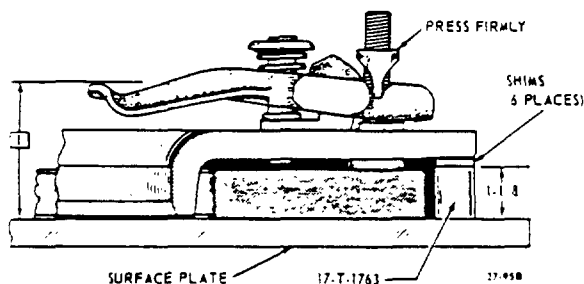

Figure 4-19. Wear Check
Place the pressure plate assembly and cover (without springs) into position as shown in Figure 4-19, making sure that shims of the correct thickness (.250) are inserted between cover and spacer (17-T-1763). Install each release lever and while pressing firmly on the fulcrum, measure distance (1) inboard end of lever is raised above cover. Correct height is 3-11/32 inches. Remove any interference that prevents obtaining this dimension.